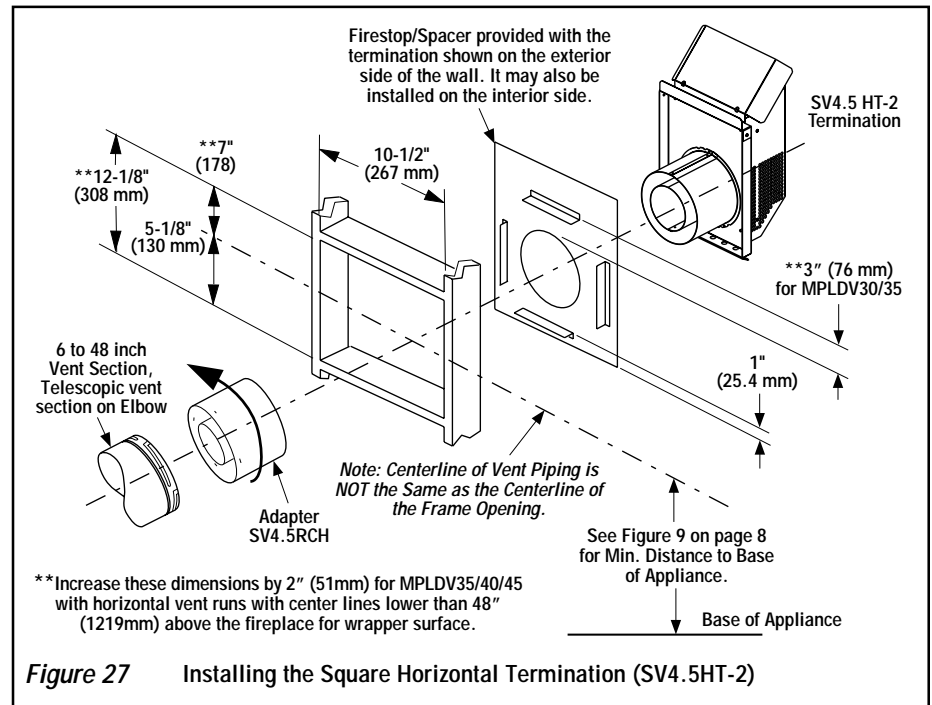

Figure 27 Installing the Square Horizontal Termination (SV4.5HT-2)
M. Attach termination adapter - Attach the adapter (SV4.5RCH - provided with the termination) to the vent section or telescoping vent section), elbow as shown in **Figure 27** in the same manner as any SV4.5 vent component (refer to **Step F**).
N. Install Firestop/Spacer at exterior wall - When using the square termination, install the SV4.5HF (Secure Vent) or SF4.5HF (Secure Flex) Firestop/Spacer over the opening at the exterior side of the framing (long side up) as shown in **Figure 27**, and fasten into place. Ensure 5" clearance is maintained by framing above the vent run for MPLDV35/40/45 when center line of the run is lower than 48" (12119 mm) above the fireplace top wrapper surface.